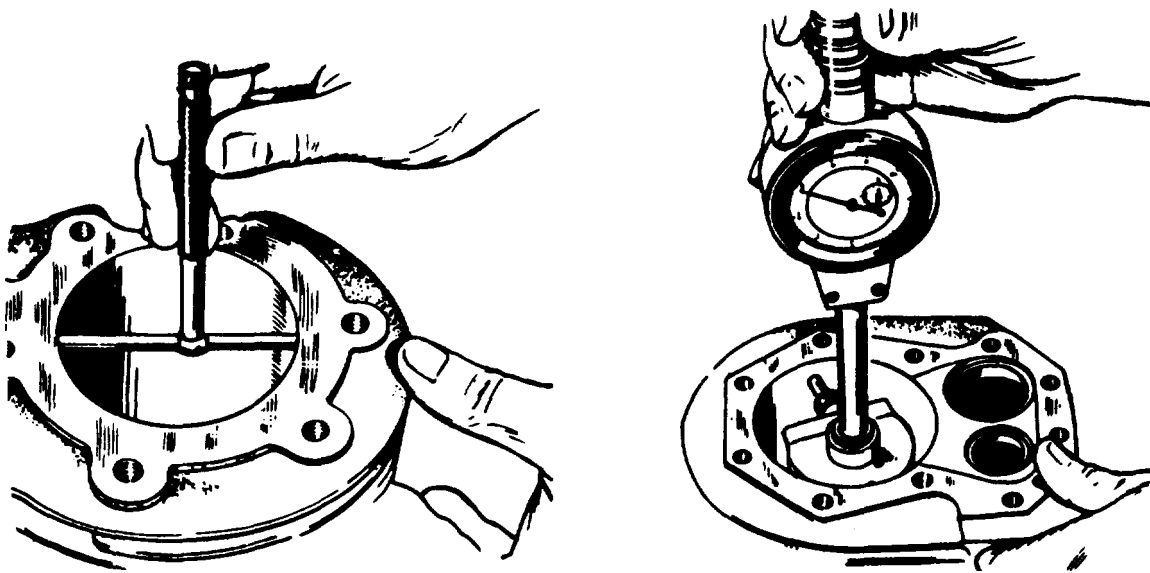

Figure 5-55. Methods of Cylinder Bore Inspection
- (1) Make a thorough check for cracks. Minute cracks may be detected by coating the suspected area with a mixture of 25 percent kerosene and 75 percent light motor oil. Wipe the part dry and immediately apply a coating of zinc oxide (white lead) dissolved in wood alcohol. If cracks are present, the white coating will become discolored at the defective area.
- (2) Inspect the cylinder bore for scoring. Check the Welsh plugs for a tight, even fit and the fins for breakage.
- (3) Check the cylinder bore for taper, out of round and wear with a cylinder bore gage, telescope gage or inside micrometer (fig. 5-55). These measurements should be taken at four places—two at the top and two at the bottom of piston ring travel.